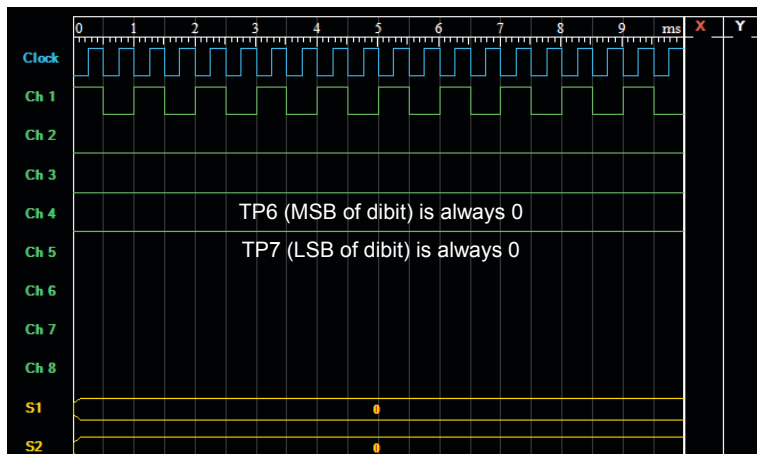

Figure 20. Logic Analyzer showing the dibit 00 at TP6-TP7.
- 25.** Set the Generation Mode to User-Entry. Set the Binary Sequence to each of the following two-bit sequences (dibits): 00 and 11. For each sequence, record data using the Logic Analyzer and note which dibit is present at the outputs of the Serial to Parallel Converter (see Figure 20).